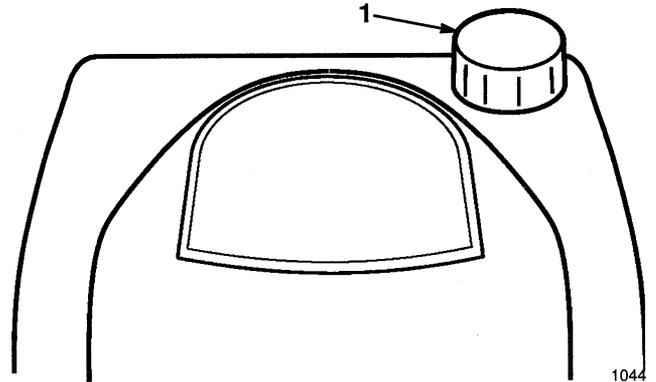

Figure 8
1. Clean around fuel cap before removing (Fig. 8). Fill fuel tank with gasoline/oil mix to bottom of filler neck, not into filler neck. DO NOT OVER-FILL TANK. Replace fuel cap securely and wipe up any spilled fuel.